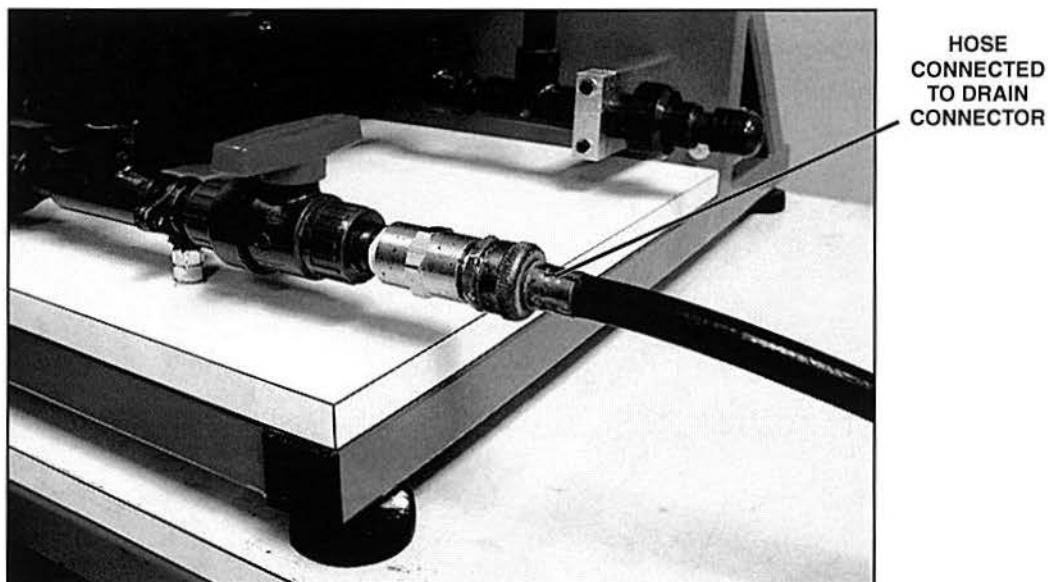

Figure 34. A Hose Connected to the Drain Connector
- C. To use a hose, connect one end of the hose to the drain connector, as shown in figure 34, and place the other end of the hose in a sink or near a drain in the floor.